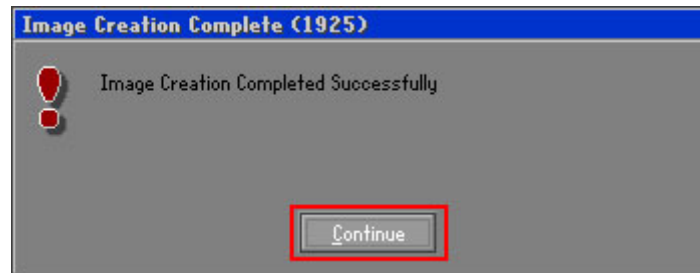

Figure A-20: Image Creation Complete
Step 11: When the image creation completes, a screen prompts as shown in **Figure A-20**.